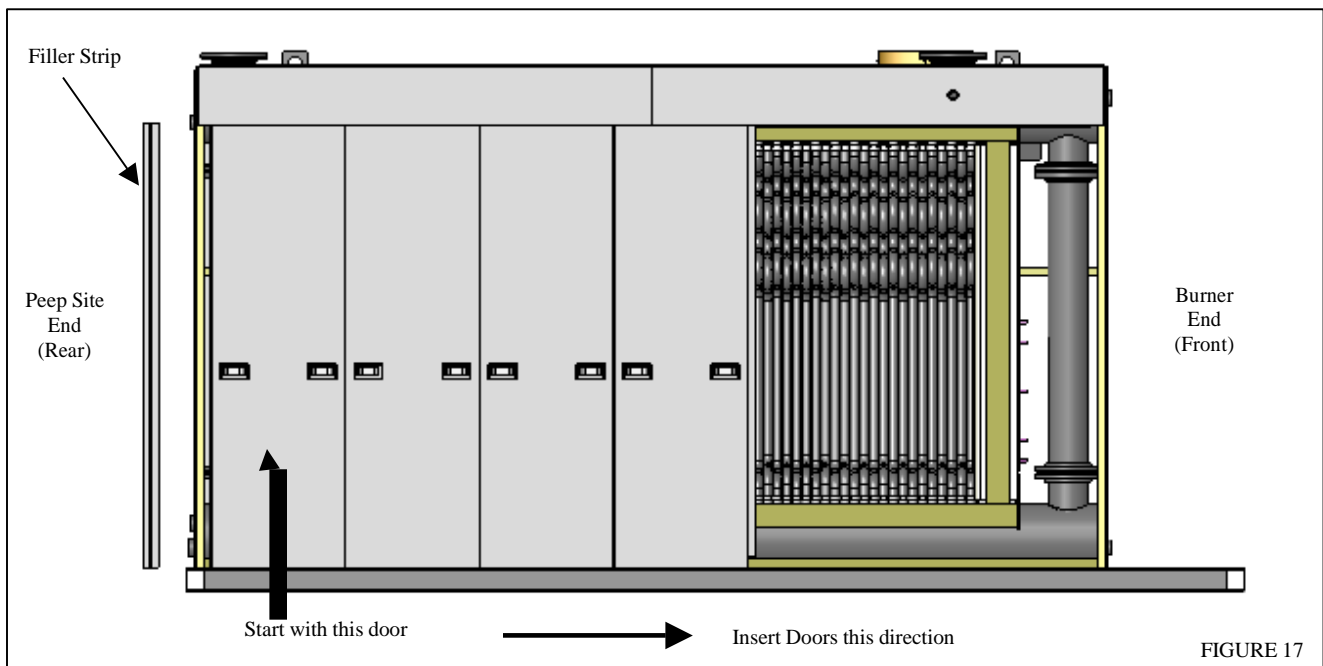

FIGURE 17
5.5 Position jacket access panel doors on boiler. Start from the peep site end. See figure 17. Once all the panels are in position, center the panels and install filler strips. Use pop rivets to hold these in position until the corner molding is screwed in place. **Note:** After filler strips have been adjusted and installed, jacket doors will have to be removed to allow for installation of tube access panels. Check jacket door insulation to make sure it is glued securely to jacket door.